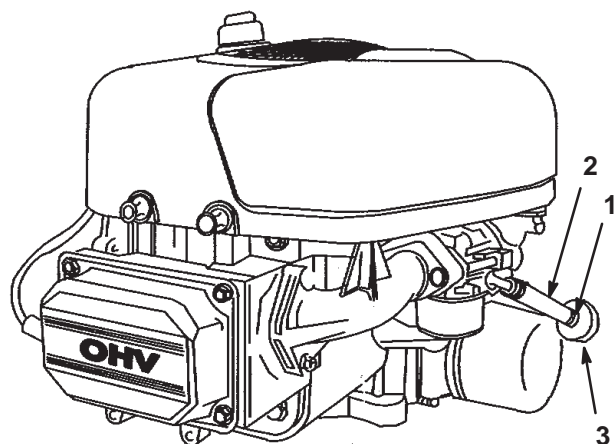

Figure 26
8. Squeeze the ends of the hose clamp together and slide it up the fuel line toward the fuel tank (Fig. 26).
9. Pull the fuel line off the fuel filter (Fig. 26) and allow gasoline to drain into a fuel container or a drain pan.
Replace the fuel filter after every 100 operating hours or yearly, whichever occurs first. The best time to replace the fuel filter (Fig. 26) is when the fuel tank is empty. Never install a dirty fuel filter after it has been removed from the fuel line.
7. Squeeze the ends of the hose clamps together and slide them away from the old fuel filter (Fig. 26).